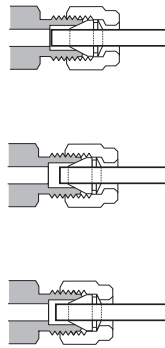

Figure 24 Completed fitting
- 10** Both correctly- and incorrectly-swaged connections are shown in Figure 24. Note that the end of the tubing in a correctly-swaged fitting is not crushed and does not interfere with the action of the ferrules.